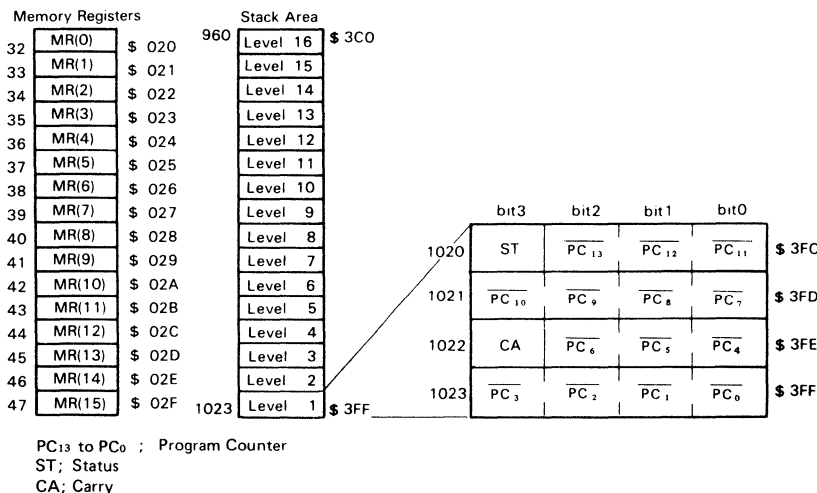

Fig. 4 Configuration of Memory Register, Stack Area and Stack Position
Stack Area is used for LIFO stacks with the contents of the program counter (PC), status (ST) and carry (CA) when processing subroutine call and interrupt. As 1 level requires 4 digits, this stack area is nested to 16 level-stack max. The data pushed in the stack and LIFO stack state are provided in Fig. 4. The program counter is restored by RTN and RTNI instructions. Status and Carry are restored only by RTNI instruction. The area, not used for stacking, is available as a data area.